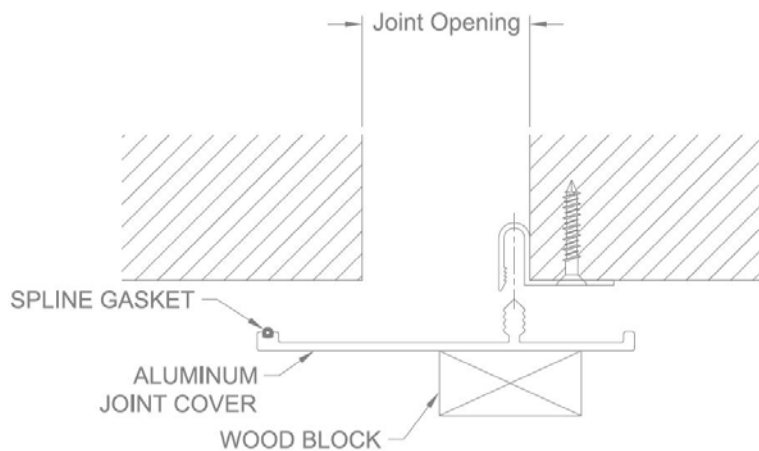

FIGURE 3
3. Before attaching the cover plate, install the gasket spline and cut it to length. Place the joint cover over the opening, aligning the male portion of the cover with the female portion of the clip. Set the joint cover in position by using a rubber mallet & wood blocking to help avoid damage. Avoid excessive force, which may also damage the joint cover. Repeat these steps the entire length of the joint cover. **See Figure 3.**